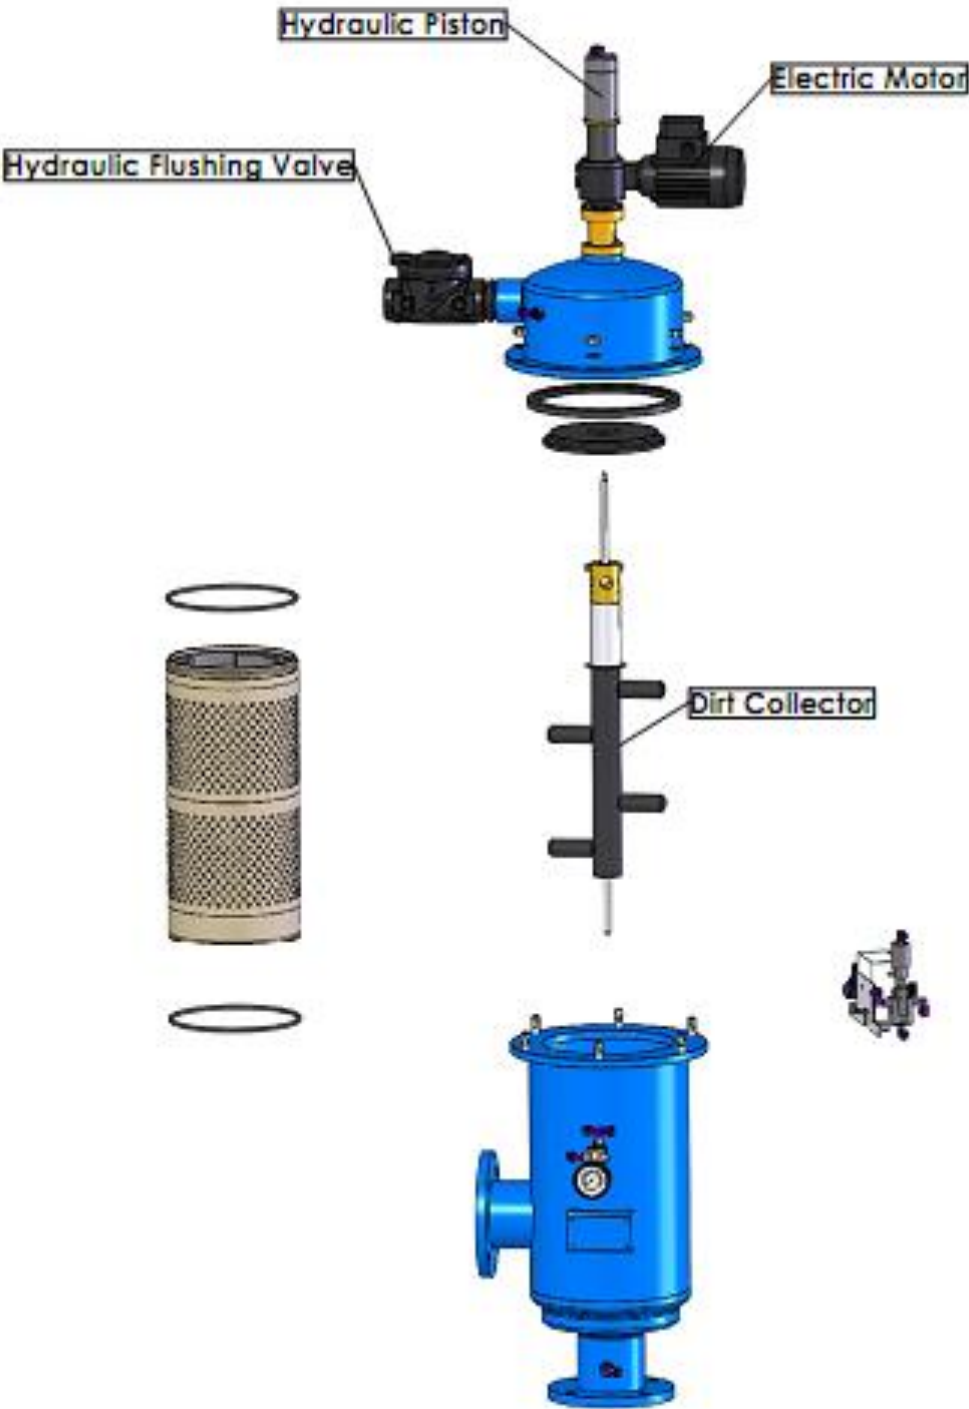

Figure 8: Dirt Collector Removal & Installation – Bell 2”-4”
6. Remove the six nuts and washers connecting both parts of the filter's housing (See Figure 8).